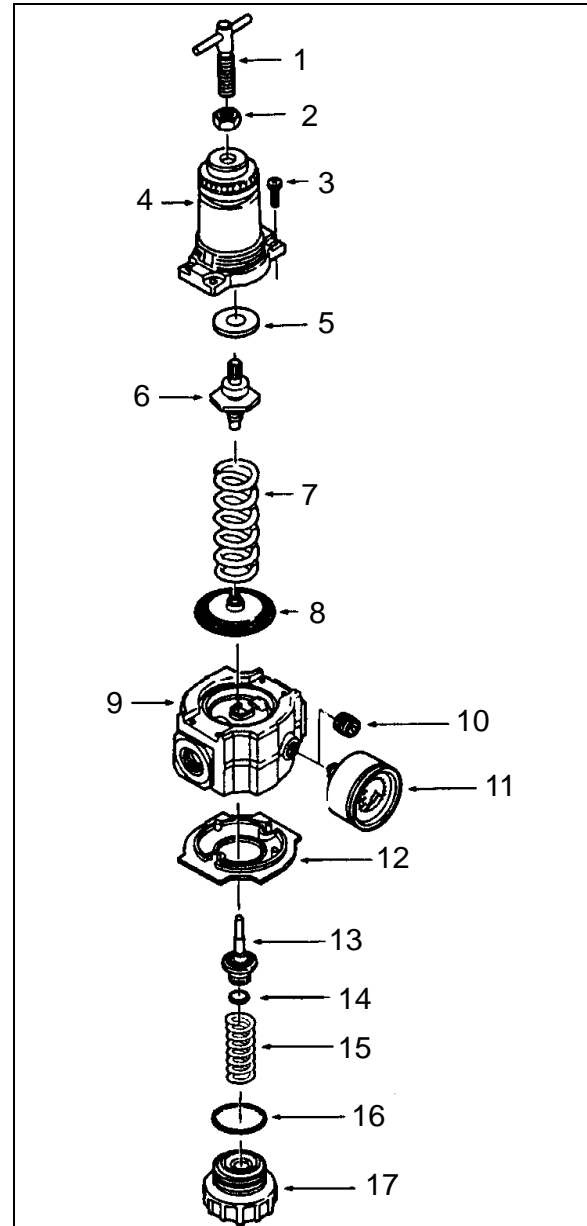

FIGURE 16: REGULATING VALVE
- Before turning on system air pressure, release jam nut (2, Fig. 16) then turn regulator adjustment counterclockwise until all load is removed from the regulating spring.
5. Tighten jam nut (2, Fig. 16) to lock pressure setting.
1. Shut off inlet pressure and reduce pressure in inlet and outlet lines to zero. Turn regulator adjustment (1, Fig. 16) counterclockwise until all load is removed from regulating spring. Regulator can be disassembled without removal from air line.
1. Lubricate O-ring (14 and 16, Fig. 16), valve stem (13, Fig. 16), tip of adjusting screw (1, Fig. 16), and the outer circumference and both sides of the thrust washer (9, Fig. 16) with a light coat of good quality O-ring grease.